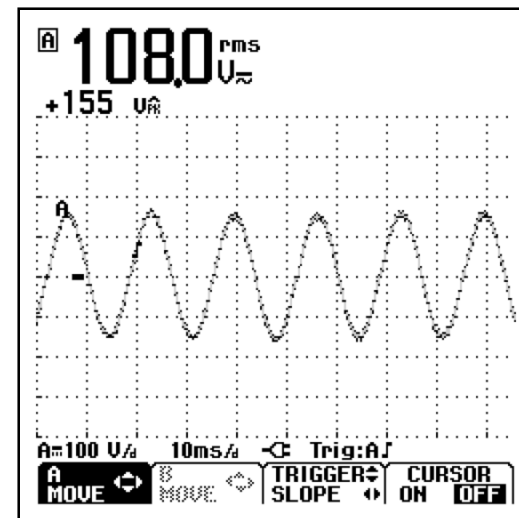

Figure 4. Ideal line voltage sine wave
- Figure 4 shows a circuit with an ideal line voltage wave shape